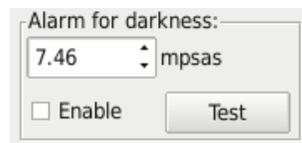

Figure 7.35: Log Continuously Alarm for darkness
**Alarm for darkness** When the darkness is over the threshold amount, an audio file can be enabled to play (Fig. 7.35) . The Test button plays this file for test purposes. The audio file is named `alarmsound.wav` and is located in the the Data Directory (which can be identified from the main page View→Directories).